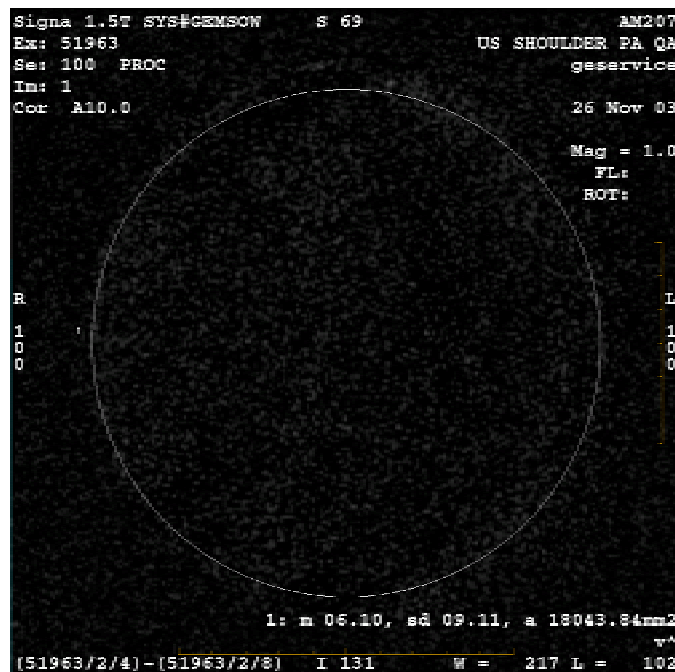

Figure 7: Subtracted noise image.
4. Measure with a circle, an area of 18000mm^2 plus or minus 100mm^2 on this noise image. This circle should be placed inside the phantom ball image (see *Figure 7*).